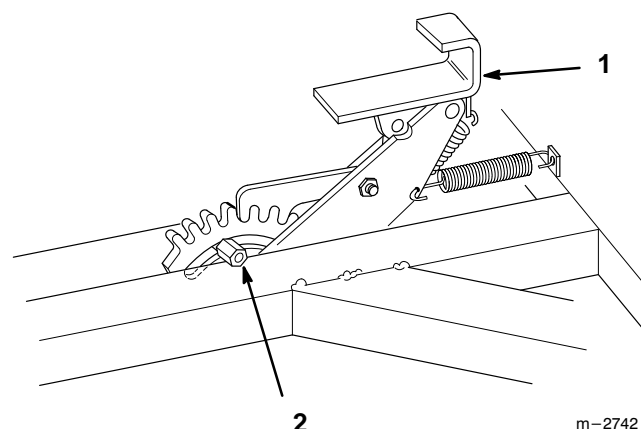

Figure 8
2. Loosen down stop on attachment lift (Fig. 8).
3. Set attachment lift to the correct position for selected cut height (Fig. 8).
4. Slide down stop against attachment lift and tighten bolt (Fig. 8).